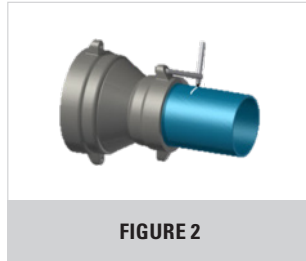

FIGURE 2
- Per Figure 2, use a 7" T-head bolt (included) as a guide and mark the location on the pipe where the restrainer will be assembled.